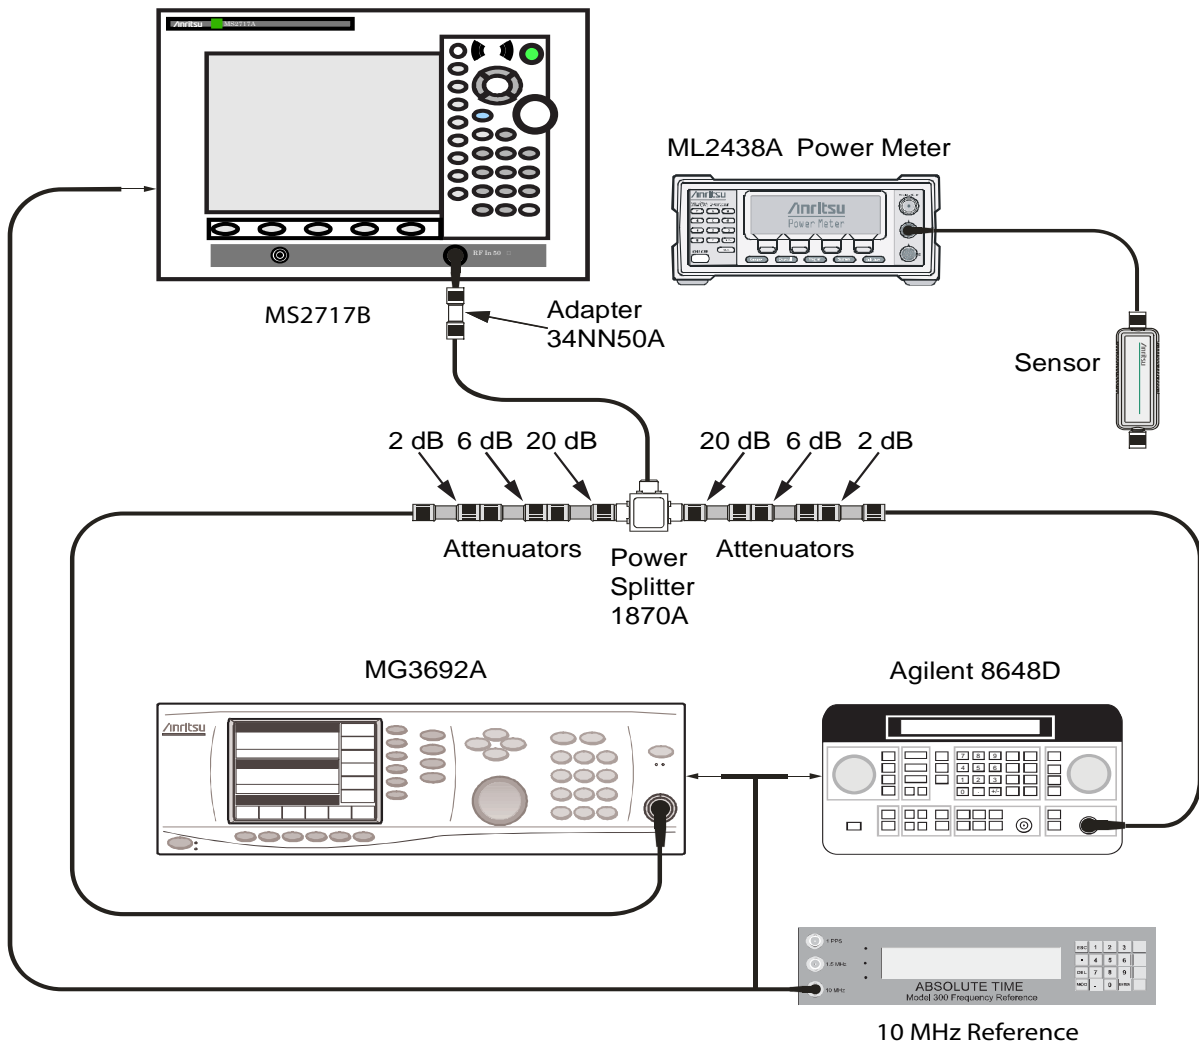

Figure 2-4. Third Order Intercept 3.5 GHz Test Setup
9. Disconnect the power sensor from the output of the splitter, and connect the splitter output to the MS2717B Spectrum Analyzer RF In connector through the Anritsu Model 34NN50A adapter as shown in Figure 2-4.